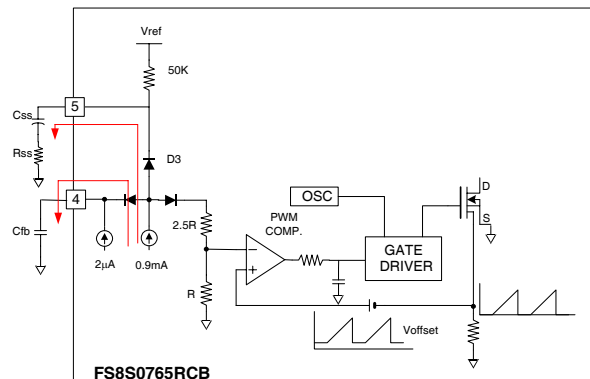

Figure 28. The circuit for the soft start
4. Soft Start: Figure 28 shows the soft-start circuit. During the initial start up, the 0.9 mA current source leaks out through C_{ss} and R_{ss}. As C_{ss} is charged, the leakage current decreases. By choosing much bigger C_{ss} than C_{fb}, it is possible to increase the feedback voltage slowly, forcing the SenseFET current to increase slowly. After C_{ss} reaches its steady state value, D3 is blocked and the soft switching circuit is decoupled from the feedback circuit. If the value of C_{ss} is too large, there is possibility that Vfb increases to 7.5V, activating the over load protection during soft start time. To avoid this situation, it is recommended that the value of C_{ss} should not exceed 100 times the C_{fb}.